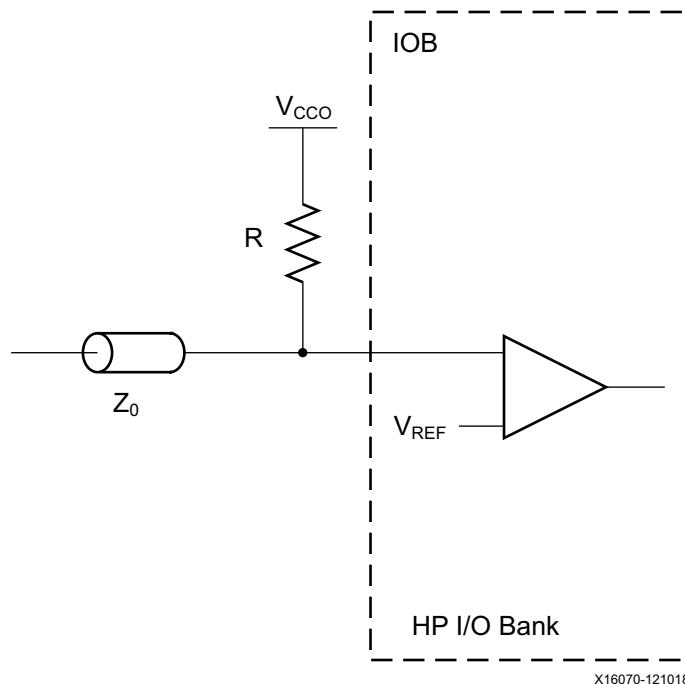

Figure 1-12: Input Termination to V_{CCO} without DCI (where $R = Z_0$)
Some I/O standards (POD10, POD12, HSUL_12, and DIFF_HSUL_12) require an input termination resistance (R) to a V_{TT} voltage of V_{CCO} (see Figure 1-12).